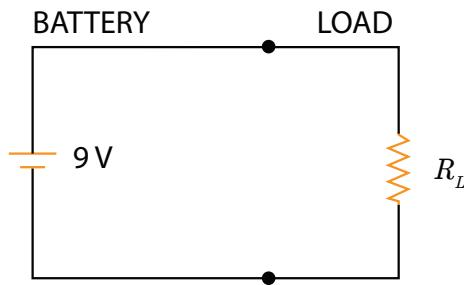

Figure 3.4.1: A simple circuit with a battery.
2. Consider the simple circuit of Figure 3.4.1. What is the current that flows in the circuit?